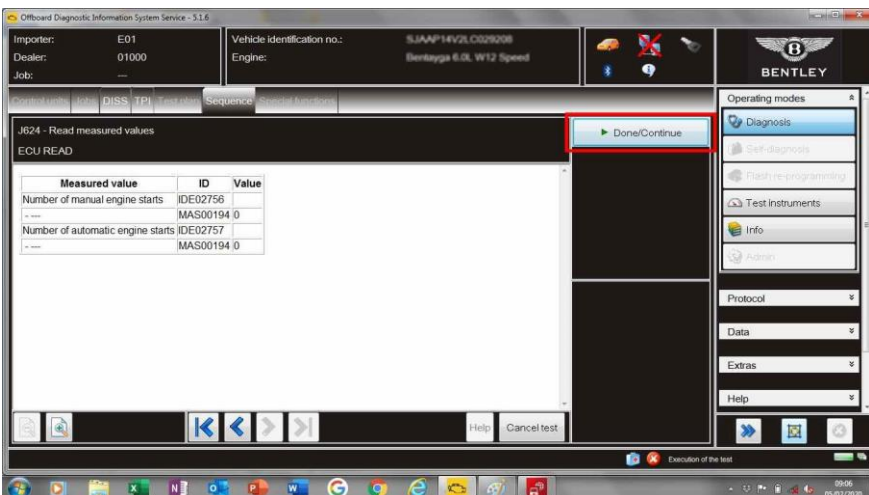

Figure 6.
- Select “Done/Continue” and then exit the application – Figure 6.